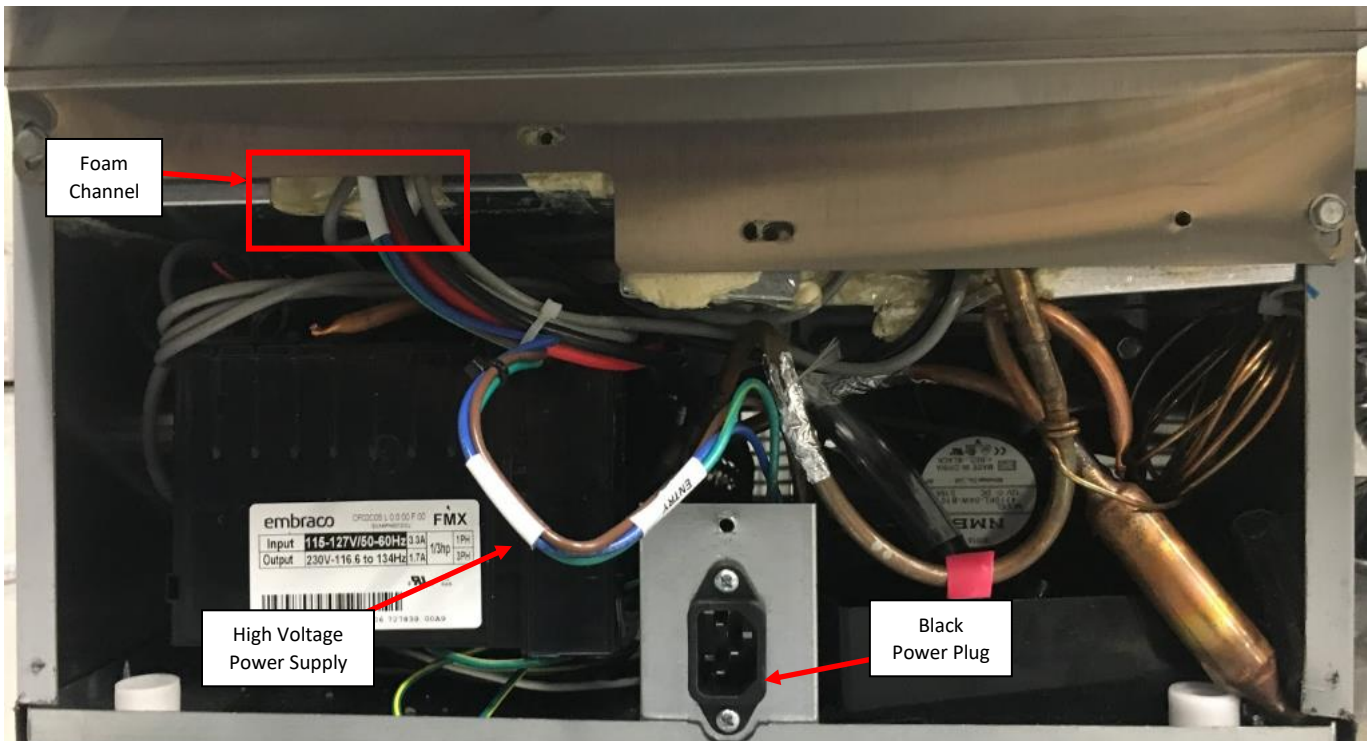

Figure 6: High Voltage Power Supply shown with Bottom Rear Panel removed.
- e. If the input does not have ~120VAC, remove the Bottom Rear Panel using 5/16-inch Hex Socket Drive to access the High Voltage Supply Harness (Can be identified by its Blue, Brown, and Green/Yellow wire strands). Verify that the Harness is not damaged (pinched, pierced, or cut) through the length of the harness from the black power plug through the Foam Channel under the Rear Enclosure. **See Figure 6.** You may have to remove the Black Power Plug to fully inspect the harness. Refer to **Appendix C: JoeTap NITCOM Wiring Diagram** for full wiring diagram. Replace the High Voltage Power Supply if damaged.